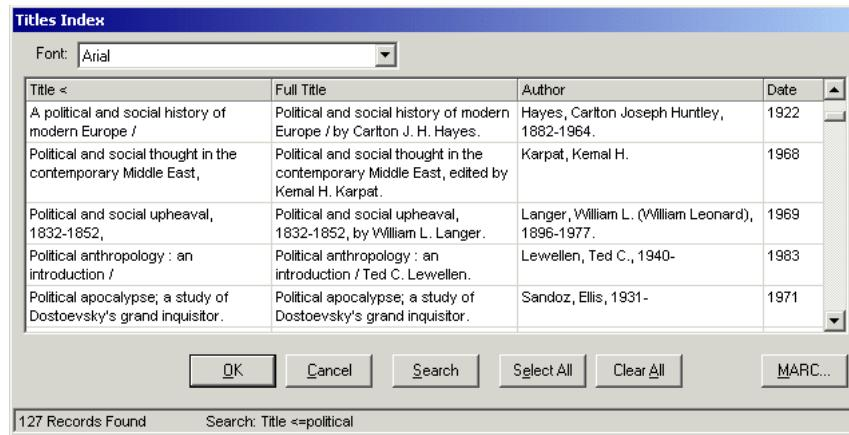

Figure 13-6. Title Index dialog box - MARC button displayed
- The **MARC** button on the **Titles Index** dialog box (Figure 13-6), which displays as a result of any non-Headings search done in Acquisitions. See Titles Index Dialog Box on page 2-28 for more information.